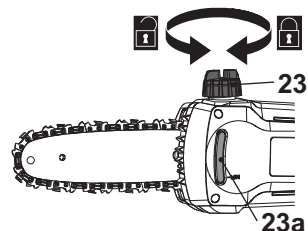

Fig. 13
1. Place the product on a stable, level surface with the oil tank cap (23) facing upward. We recommend laying a non-flammable sheet under the product.
2. Unscrew and remove the oil tank cap (23) (Fig. 13).